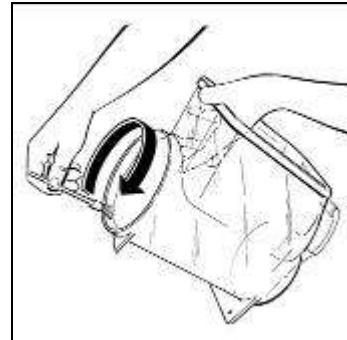

Fig. 22
- Moisten with water the rear of the tank where it meets with the seal to facilitate the reassembling procedures (see fig.22);